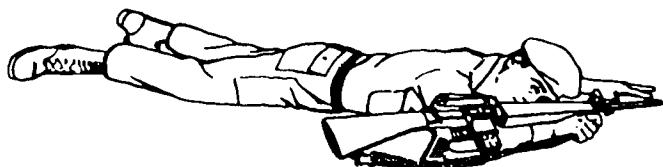

Figure 3-9. Low crawl.
**Low crawl.** When you must move in on an enemy and there is little or no cover or concealment available, you must use the low crawl. To low crawl, you get into the prone position, lay the stock of your weapon on top of your arm, lay your head as close to the ground as you can, and pull and push yourself along the ground. (see fig. 3-9.)